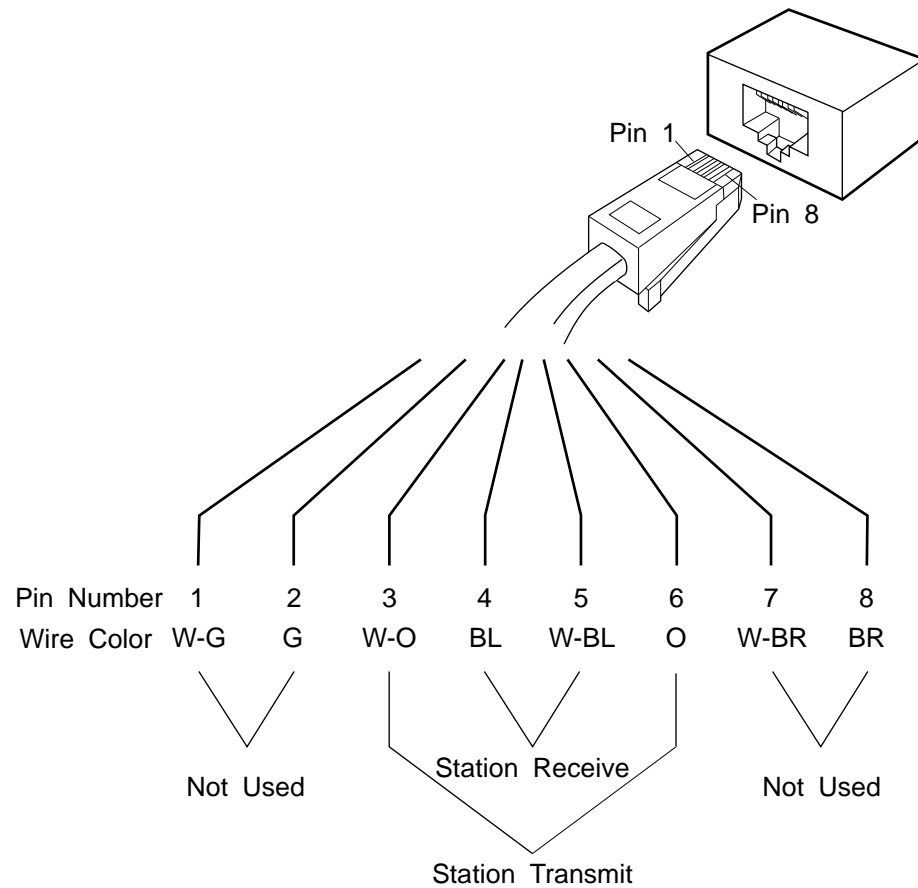

Figure 44-30. Twisted-Pair 8-Pin Connector
Refer to Figure 44-30 on page 44-95 for the pin layout of the 8-pin modular connector. Connection of the token-ring UTP media filter to a token-ring MAU is via an attachment cable meeting the following specifications:
- 8-pin modular telephone plugs at each end (optional shielding) meeting or exceeding requirements for category 5 cable connections (refer to Figure 44-30 on page 44-95 for pin layout). If the cable and connector are shielded, the cable shield must terminate on the connector shield. Note that the connector pins must not be used to terminate a cable shield.
Attaching cables must use the 802.5 standard pin layout. Cables must be terminated with an 8-pin jack. Figure 44-30 illustrates the proper pin configuration for the cable from the rear.